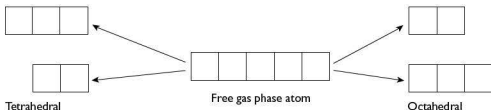

Figure 11.5 Splitting of d-orbitals in transition metal complexes
Figure 11.5 shows that for the formation of a tetrahedral complex, three orbitals have higher energy ($3d_{xy}$, $3d_{yz}$ and $3d_{zx}$), whereas for an octahedral complex the reverse is true ($3d_{x^2-y^2}$ and $3d_z^2$). This is because in octahedral complexes the ligands approach the central metal ion along the axes, and there is repulsion between the electrons on the ligands and those in the $3d_{x^2-y^2}$ and $3d_z^2$ orbitals. In tetrahedral complexes the four ligands approach the central metal ion between the axes and now there is repulsion between the electrons on the ligands and those in the $3d_{xy}$, $3d_{yz}$ and $3d_{zx}$ orbitals.
As well as forming simple compounds such as oxides and salts, one of the characteristic properties of transition metals is their ability to form complex ions, many of which have a distinctive colour. The reason for this colour is the absorption of light in different parts of the electromagnetic spectrum. This absorption occurs because of the movement of an electron from a lower energy d-orbital to one of higher energy (see Figure 11.5). In the case of the aqueous copper(II) ion the transition is shown in Figure 11.6.